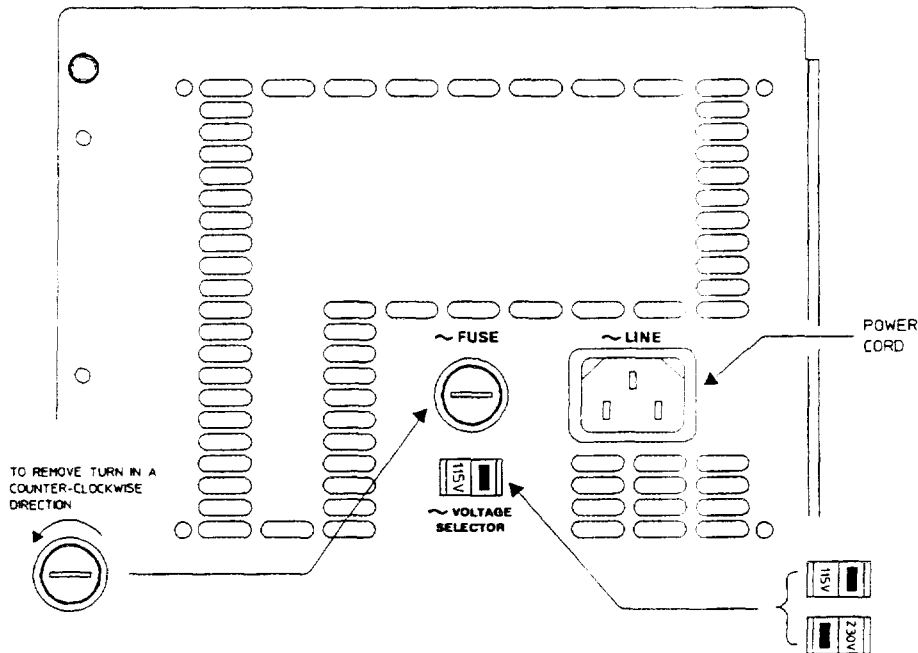

Figure 2-1. Voltage Selection and Fuse Replacement
The line-voltage selector switch is set at the factory to match the most commonly used line voltage of the country of destination; the appropriate fuse is also installed. To check or change either the line-voltage selector switch or the fuse, see figure 2-1, table 2-1, and the following procedures.
2. Slide the line voltage selector switch (see figure 2-1) to the proper voltage (see table 2-1).
2. Using a small screw driver, turn the fuse holder cap counter-clockwise and remove when the fuse cap is free from the housing (see figure 2-1).